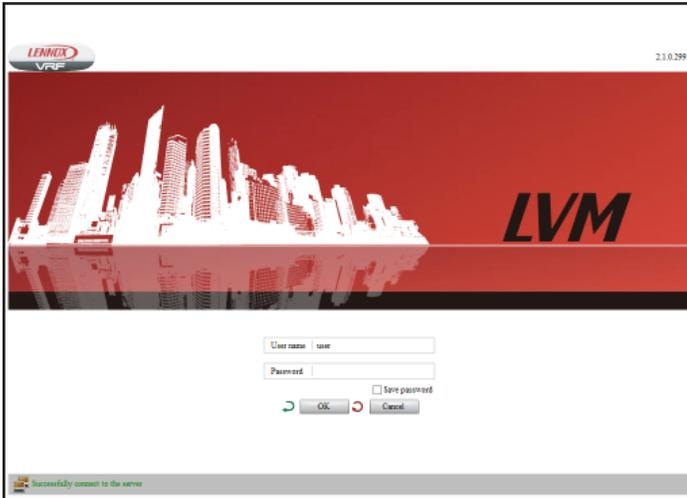

Figure 6. Login Screen
- Use the Login screen to access LVM system. See figure 6.